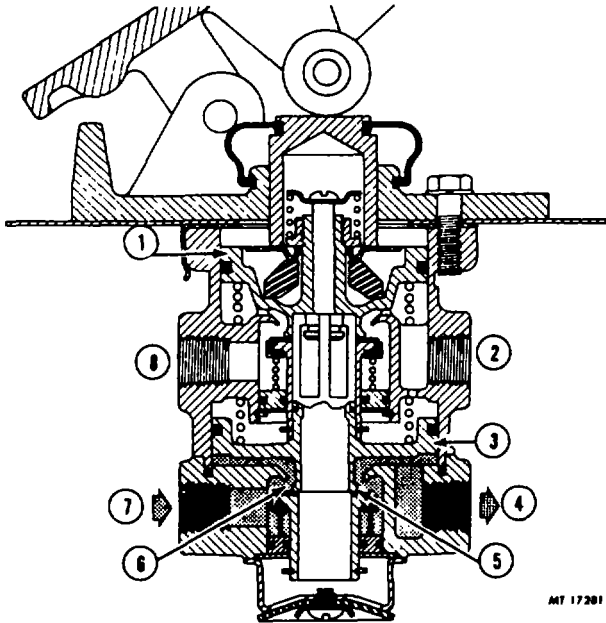

Fig. 5 Brake Valve Applied - Loss of Air In Primary Circuit
**Application - Loss of Air In Primary Circuit (Fig. 5)**